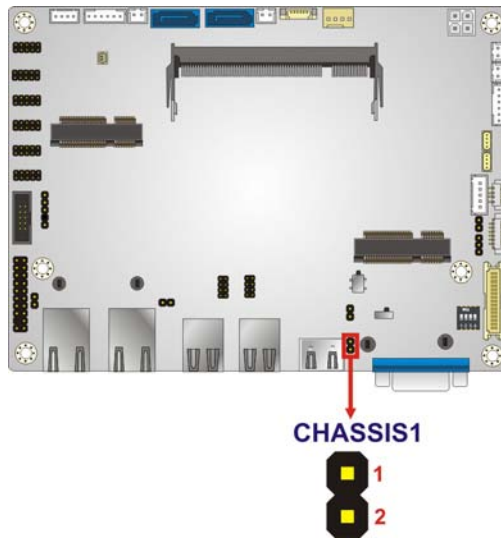

Figure 3-6: Chassis Intrusion Connector Location
- CN Location: See **Figure 3-6**